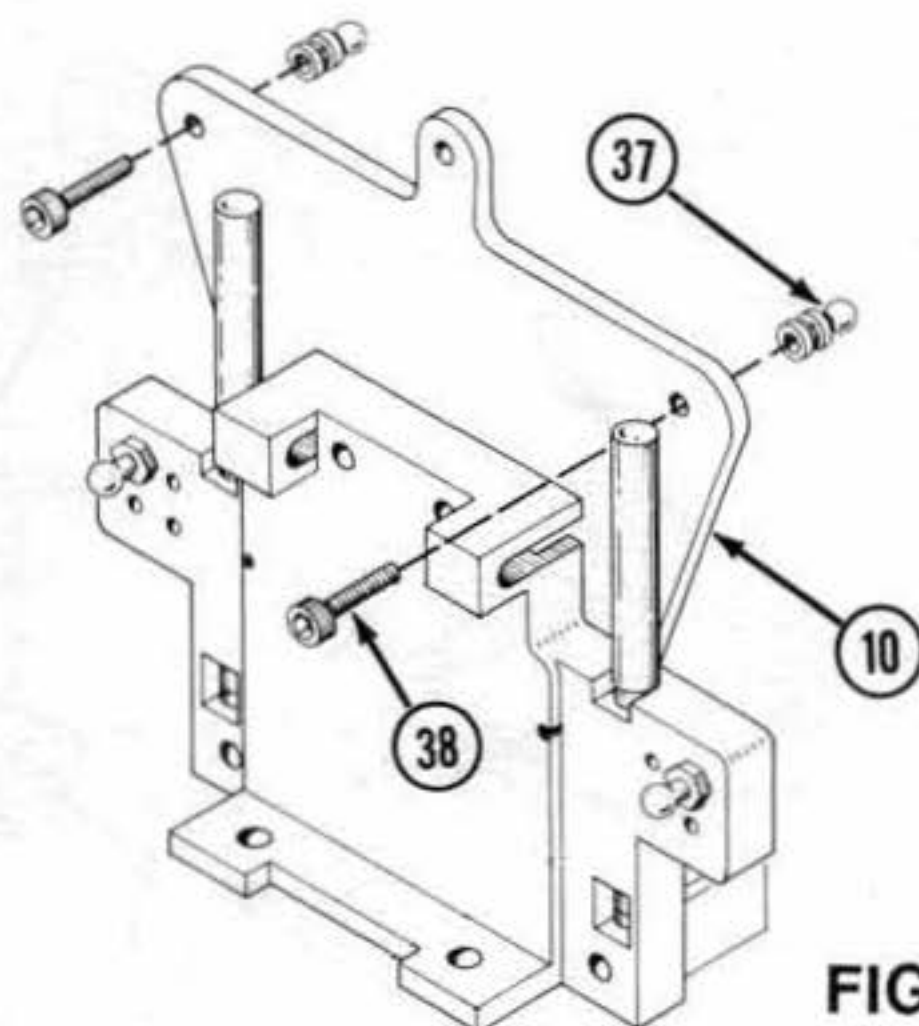

FIG. 19
10. Secure shock mount (37) to front of top corner hole in rear shock tower (10) using a 4-40 X 3/4" socket head screw (38) threaded from rear of shock tower to front. Fig.19